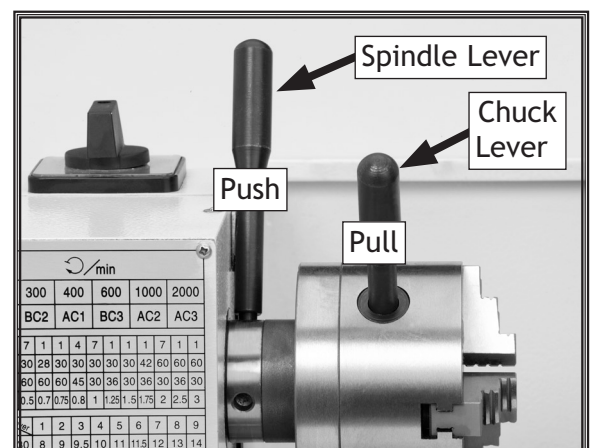

Figure 12. Chuck removal levers.
4. Use spindle and chuck levers to loosen the chuck from the spindle as shown in **Figure 12**.